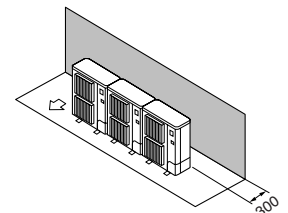

Fig. 3-11
- ① Obstacles at rear only (Fig. 3-11)